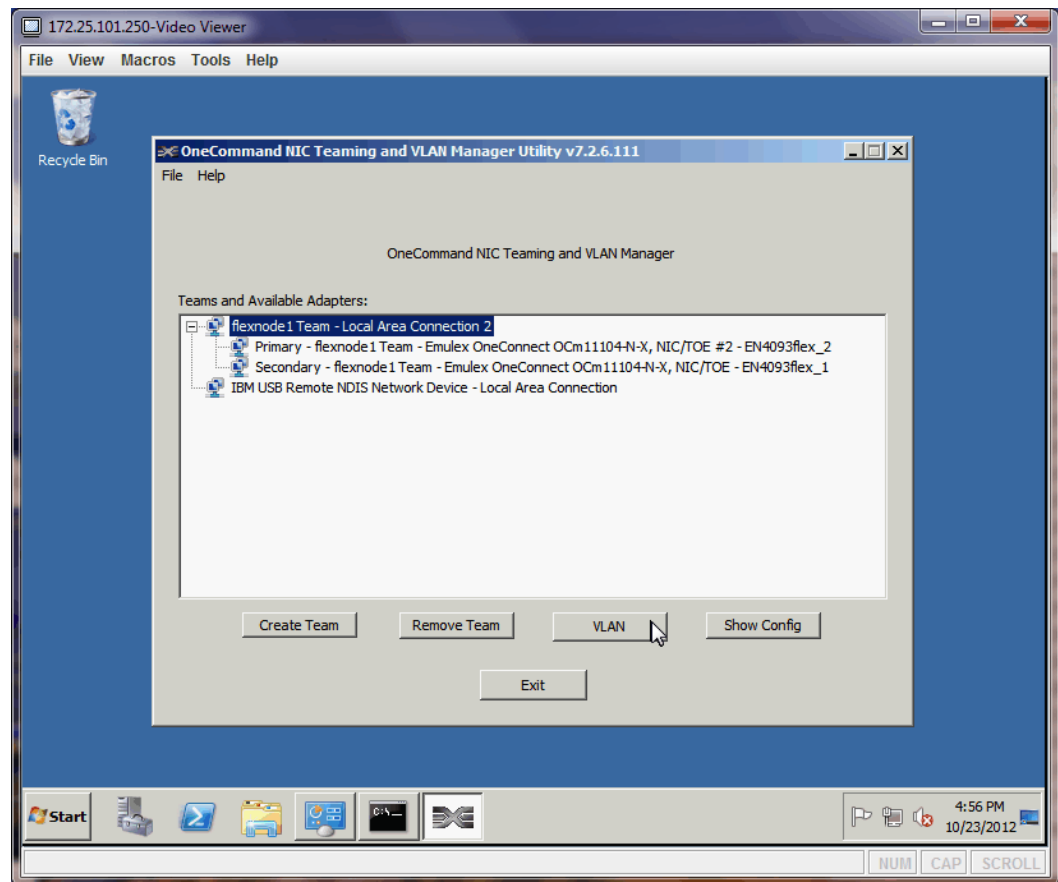

Figure 5-7 Inspecting the new NIC Team and configuring VLAN information
6. Notice that the NIC bond you created in the previous step is now listed on the main window with the Emulex adapters bundled together. We must ensure that VLAN 4092 is being tagged because our I/O modules are expecting the traffic to be tagged with 802.1Q frames before leaving the adapter. Click **VLAN**, as shown in Figure 5-7.